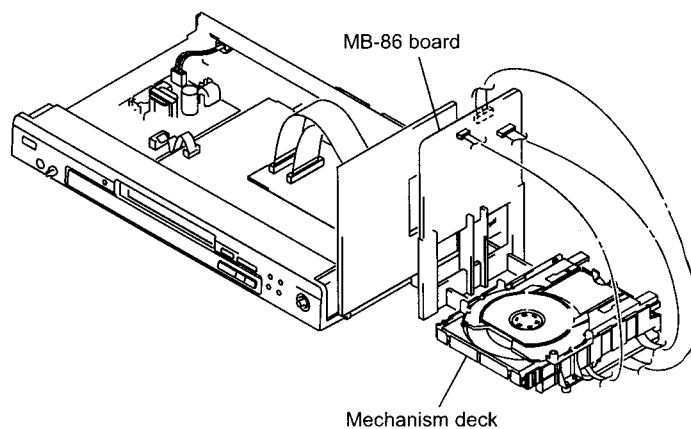

Fig. 6
8) Set the mechanism deck as shown in Fig. 6.